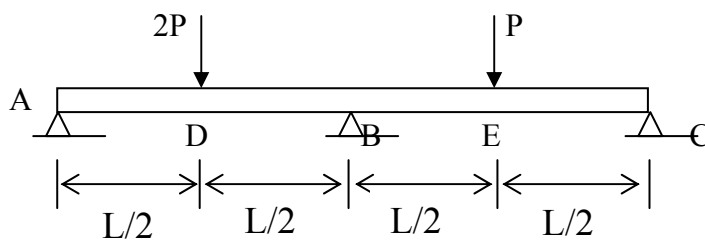

Figure 6.1
1. Determine the value of  $P$  required causing collapse using the virtual work method in Figure 6.1.